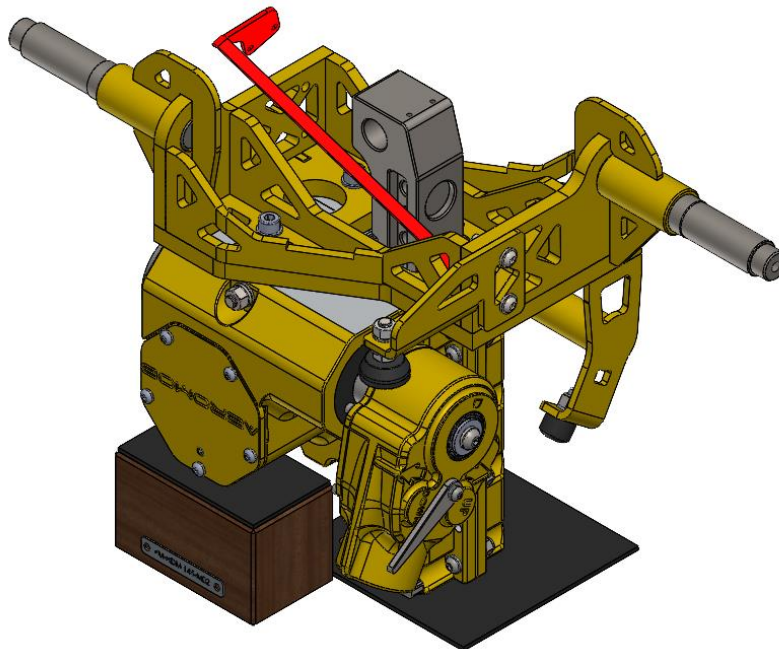

Figure 4
- b. With the block assembled according to MM AM-HDM-145-K01, place it upside down, tilt the arrow (1-4/14) towards the cover (1-4/8) as shown in Figure 4.